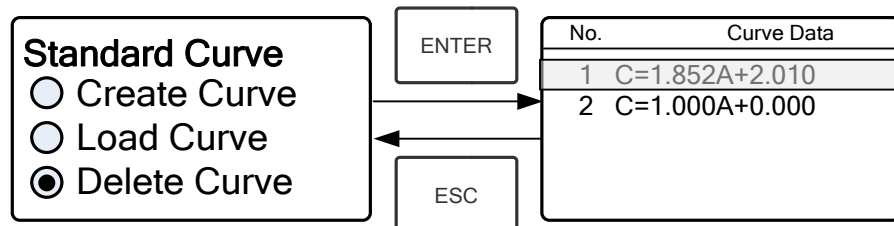

Fig. 4-17
- ★ Move the cursor on "Delete Curve" and press  to confirm. Then the system goes into the curve equation choosing interface. (Fig. 4-17)